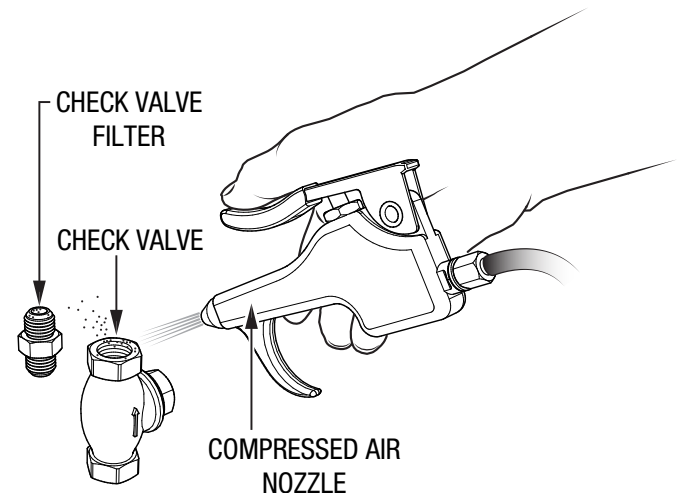

Figure 13. Check Valve and Filter Inspection and Cleaning
7. Inspect the inside of the check valve and check valve filter for blockage, residue, burrs, or any other dirt or debris (Figure 13). Clean out with compressed air as needed.